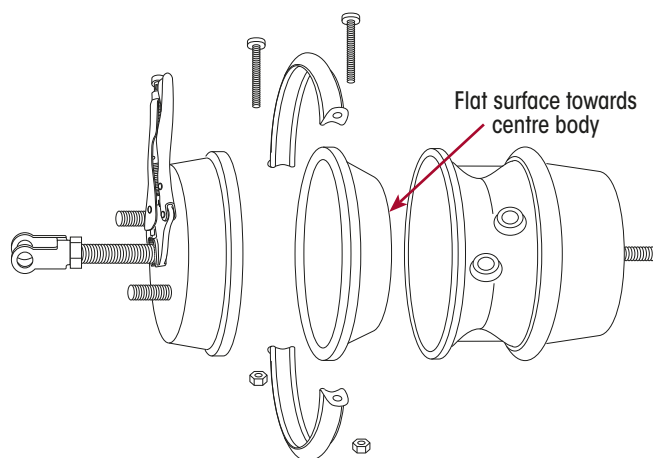

Figure 105: Brake Chamber Assembly
2. Place new diaphragm into the centre body with the flat surface towards the centre body. Refer Figure 105.